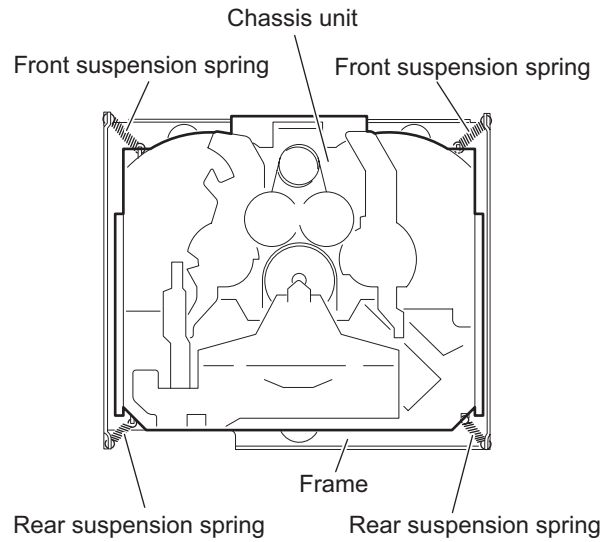

Fig.5
### 3.2.4 Removing the chassis unit (See Figs.5 and 6)
- From the top side of the CD mechanism assembly, remove the front suspension springs and rear suspension springs attaching the chassis unit to the frame. (See Fig.5.)
- Pay attention to misuse and loss of each spring. (See Fig.5.)